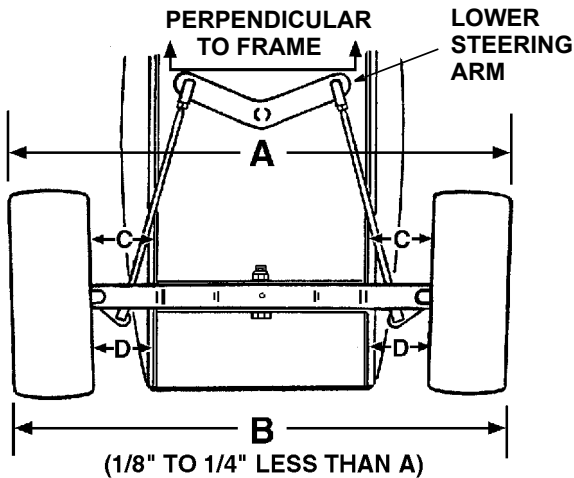

Figure 12. Viewed from beneath the tractor.
The front wheels should toe-in approximately 1/8 to 1/4 inch, as measured across dimensions A and B shown in Figure 12.
1. Check the lower steering arm to ensure it is perpendicular to the tractor frame (See Figure 12).
3. Rotate the wheels to position the marks at the front *horizontal* diameter of the wheels, then measure the distance between the marks and the bottom edges of the tractor frame channels (See measurement D in Figure 12). These two measurements should be equal.
4. While holding the steering arms to prevent the steering knuckles from moving, rotate the marks to the rear *horizontal* diameter. Measure the distance between the marks and the frame (See measurement C in Figure 12). Measurement D should be approximately 1/16 to 1/8 inch less than measurement C on each side of the tractor.